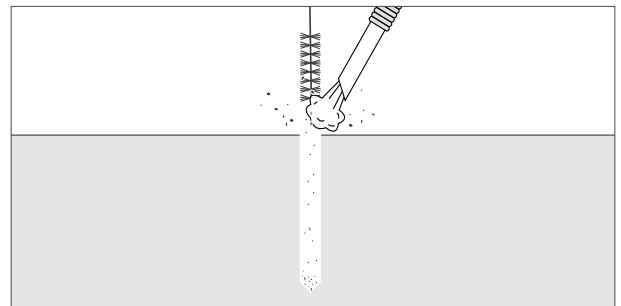

Fig. 2: Clean the hole thoroughly for dust.
3.2 Clean the hole thoroughly for dust with a brush or air. (See fig. 2)